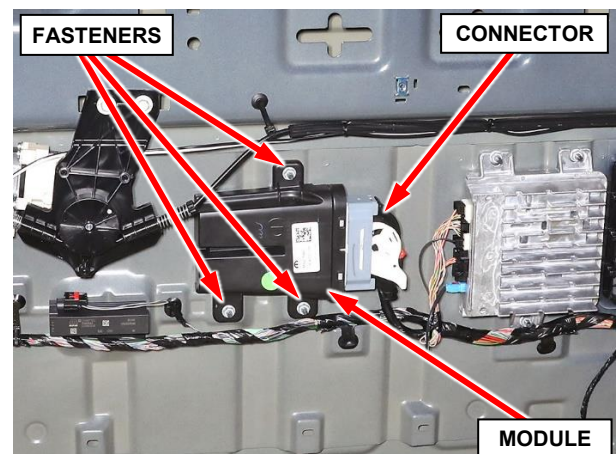

Figure 15 – Trailer Tow Module
10. Disconnect the wire harness connector from the trailer tow module (Figure 15).
11. Remove the three fastener nuts from the trailer tow module (Figure 15).
12. Remove the trailer tow module from the vehicle (Figure 15).
15. Install the **NEW** trailer tow module to the vehicle and tighten the three fastener nuts securely (Figure 15).
16. Connect the wire harness connector to the trailer tow module (Figure 15).